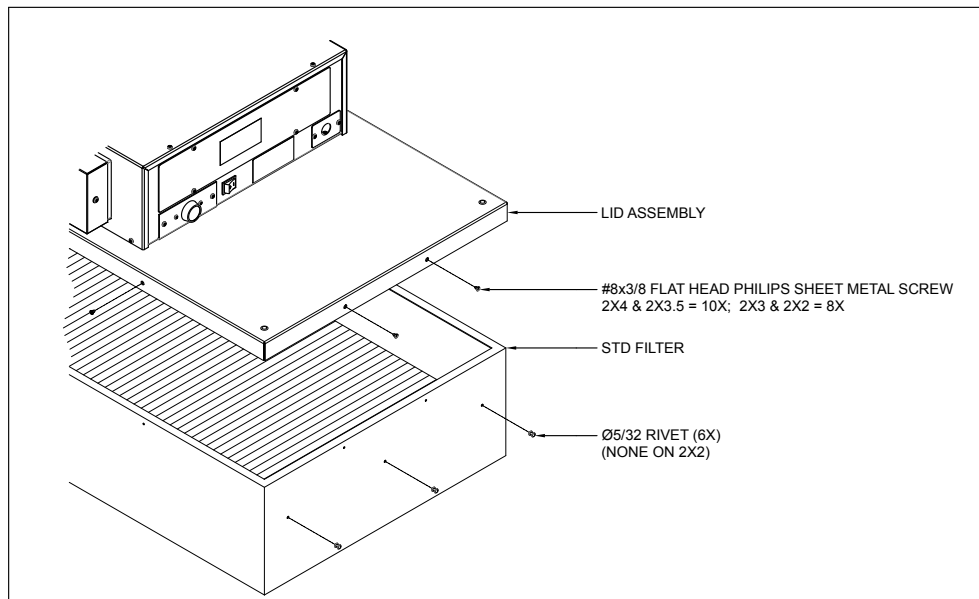

Figure 9: Standard Filter Replacement
Step 3. Lift the lid assembly off the filter. (See Figure 9.) Discard the used filter as per requirements of the applicable regulations.